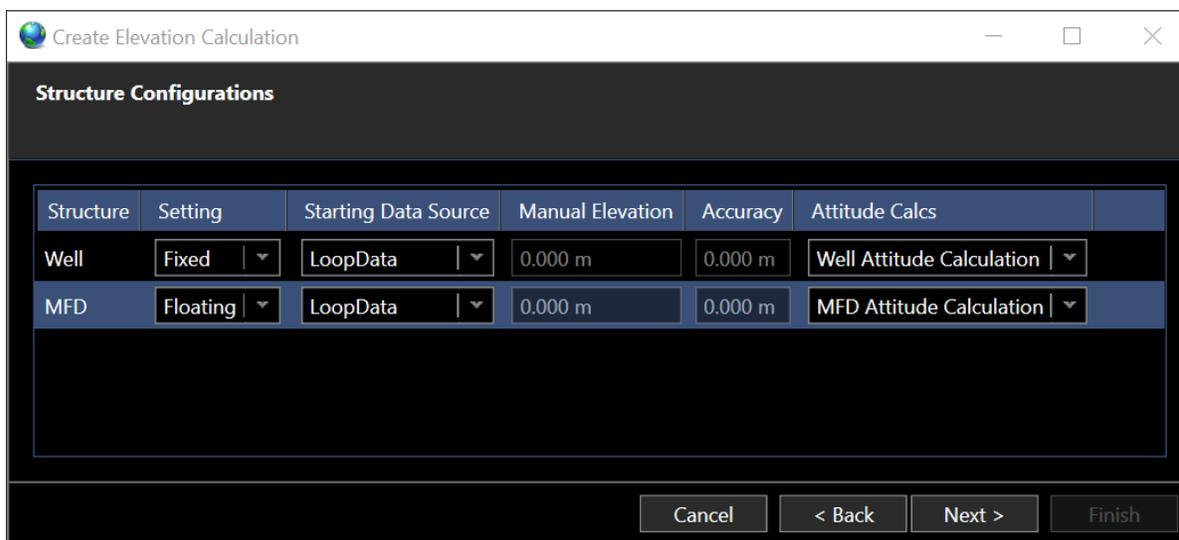

FIGURE 88 CREATE ELEVATION CALCULATION – STRUCTURE CONFIGURATION PAGE
6. Click Next to open the Structure Configuration page, see Figure 88.